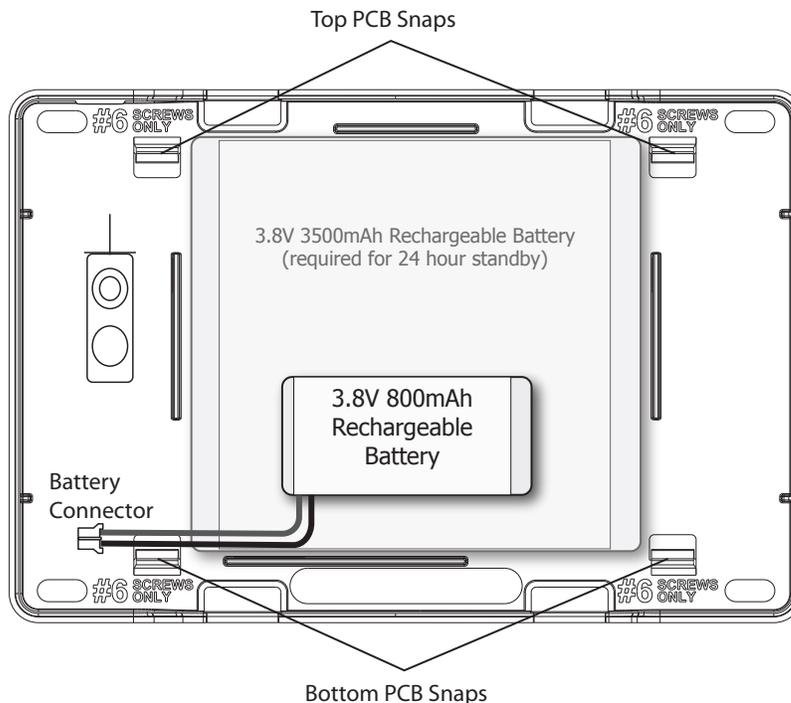

Figure 2: Standby Battery Replacement
The SecuraHub™ 800 mAh rechargeable battery is used to provide 4 hours of standby battery power when DC power is not available. The battery is intended for backup power only and not to operate the panel on a daily basis. If the battery is low, or not plugged into the BAT battery connector, a low battery condition is indicated by the panel. If 24 hour standby battery power is needed, connect an optional 3500 mAh battery. See Figure 2.
1. Unplug the BAT battery connector from the SecuraHub™ panel. See Figure 2.